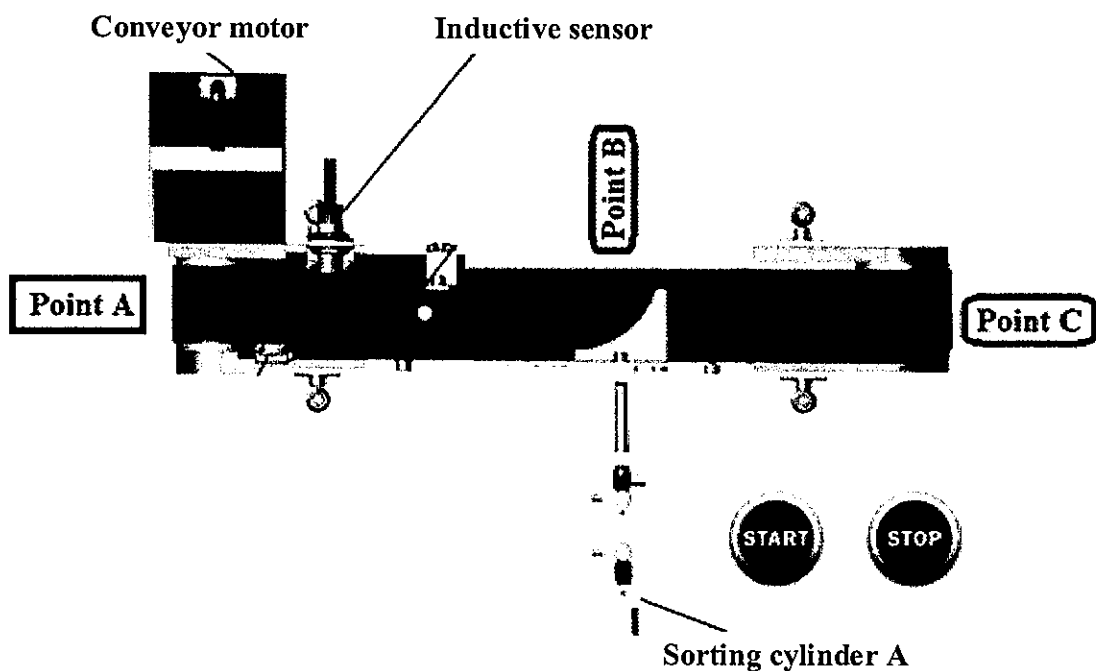

Figure B2 / Rajah B2
Figure B2 shows a Part Sorting System. There are two (2) types of objects to be sorted: metal and plastic parts. Both types of objects will start moving from Point A.